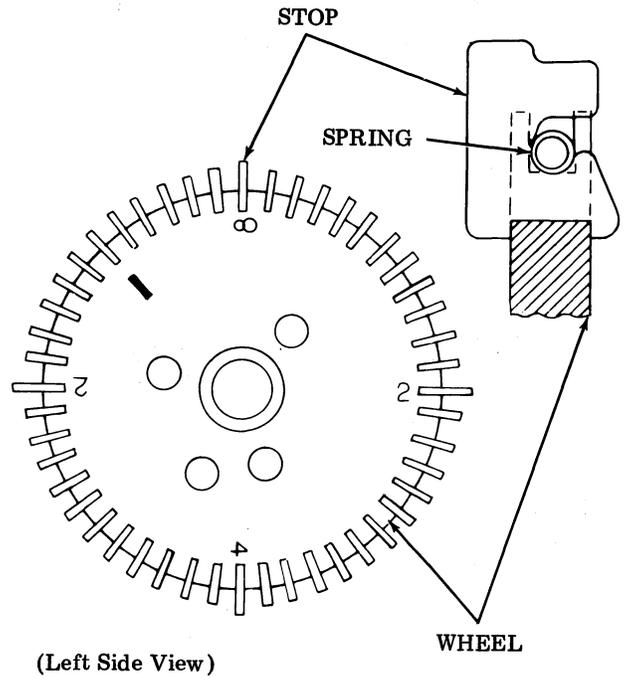

Figure 16 - Form-Out Positioning
4.23 Before operating a set equipped with vertical tabulation and/or form-out, check to see if the required stops for the form length have been added. All units are shipped from the factory with only the stop for the longest form length. Extra form-out stops are provided in a bag tied to the typing unit. They are to be installed if a form length shorter than the wheel length was ordered. For example: on an 8-, 4-, 2-inch wheel (Figure 16), if a 8-inch form is used, no action is necessary. If a 4-inch form is used a form-out stop must be inserted in the slot marked 4. For 2-inch forms, insert form-out stops in slot marked 4 and slot marked 2.